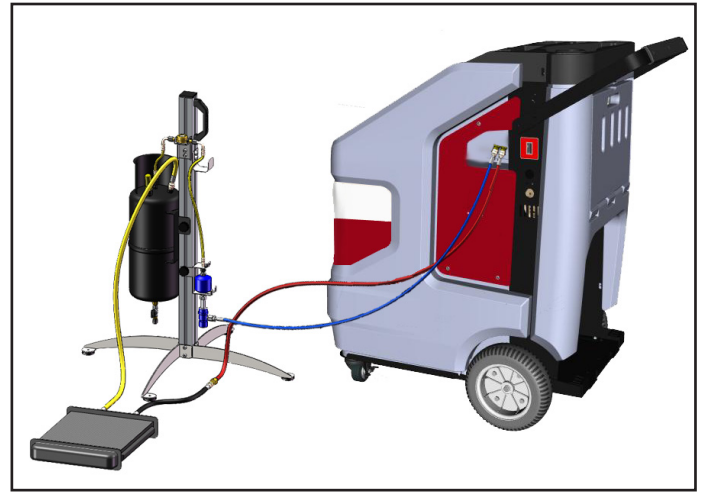

Fig. 33: Unit connected to flush device and condenser
3. After connecting as shown in Fig. 33, press the **CONTINUE** button.